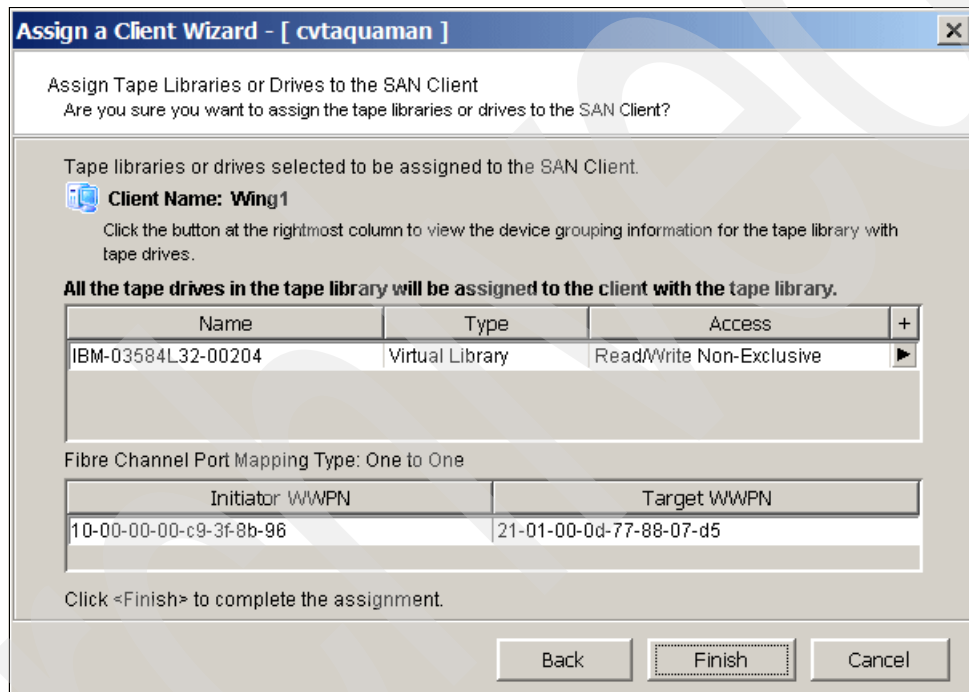

Figure 8-26 TS7500 - Check the WWPNs to assign virtual tape library
- In the *Assign Tape Libraries or Drives to the SAN Client* panel (Figure 8-26), verify your selection before you make this assignment. If everything appears to be correct, click **Finish**. To make changes, click the **Back** button.